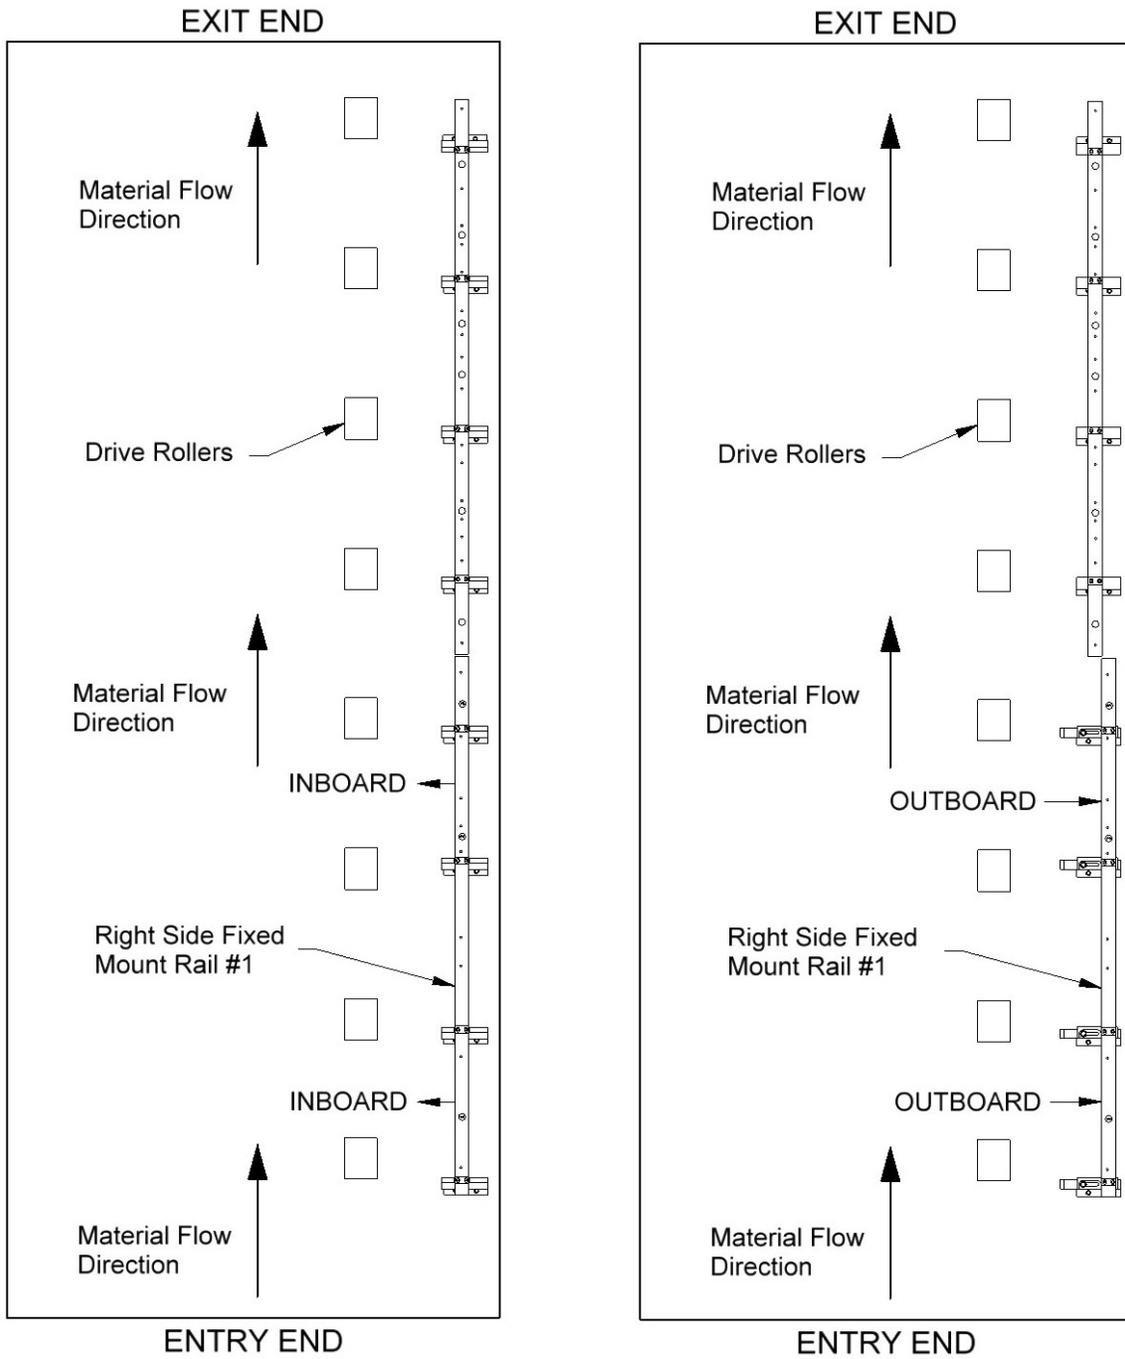

Figure 55: Inboard/Outboard Positions
3. Refer to the SSQ Slide Block chart (Figure 54) and find the profile that will be installed into the machine. It will show if the Right Side Fixed Mount Rail #1 needs to be in the Inboard position or Outboard position (Figure 55).